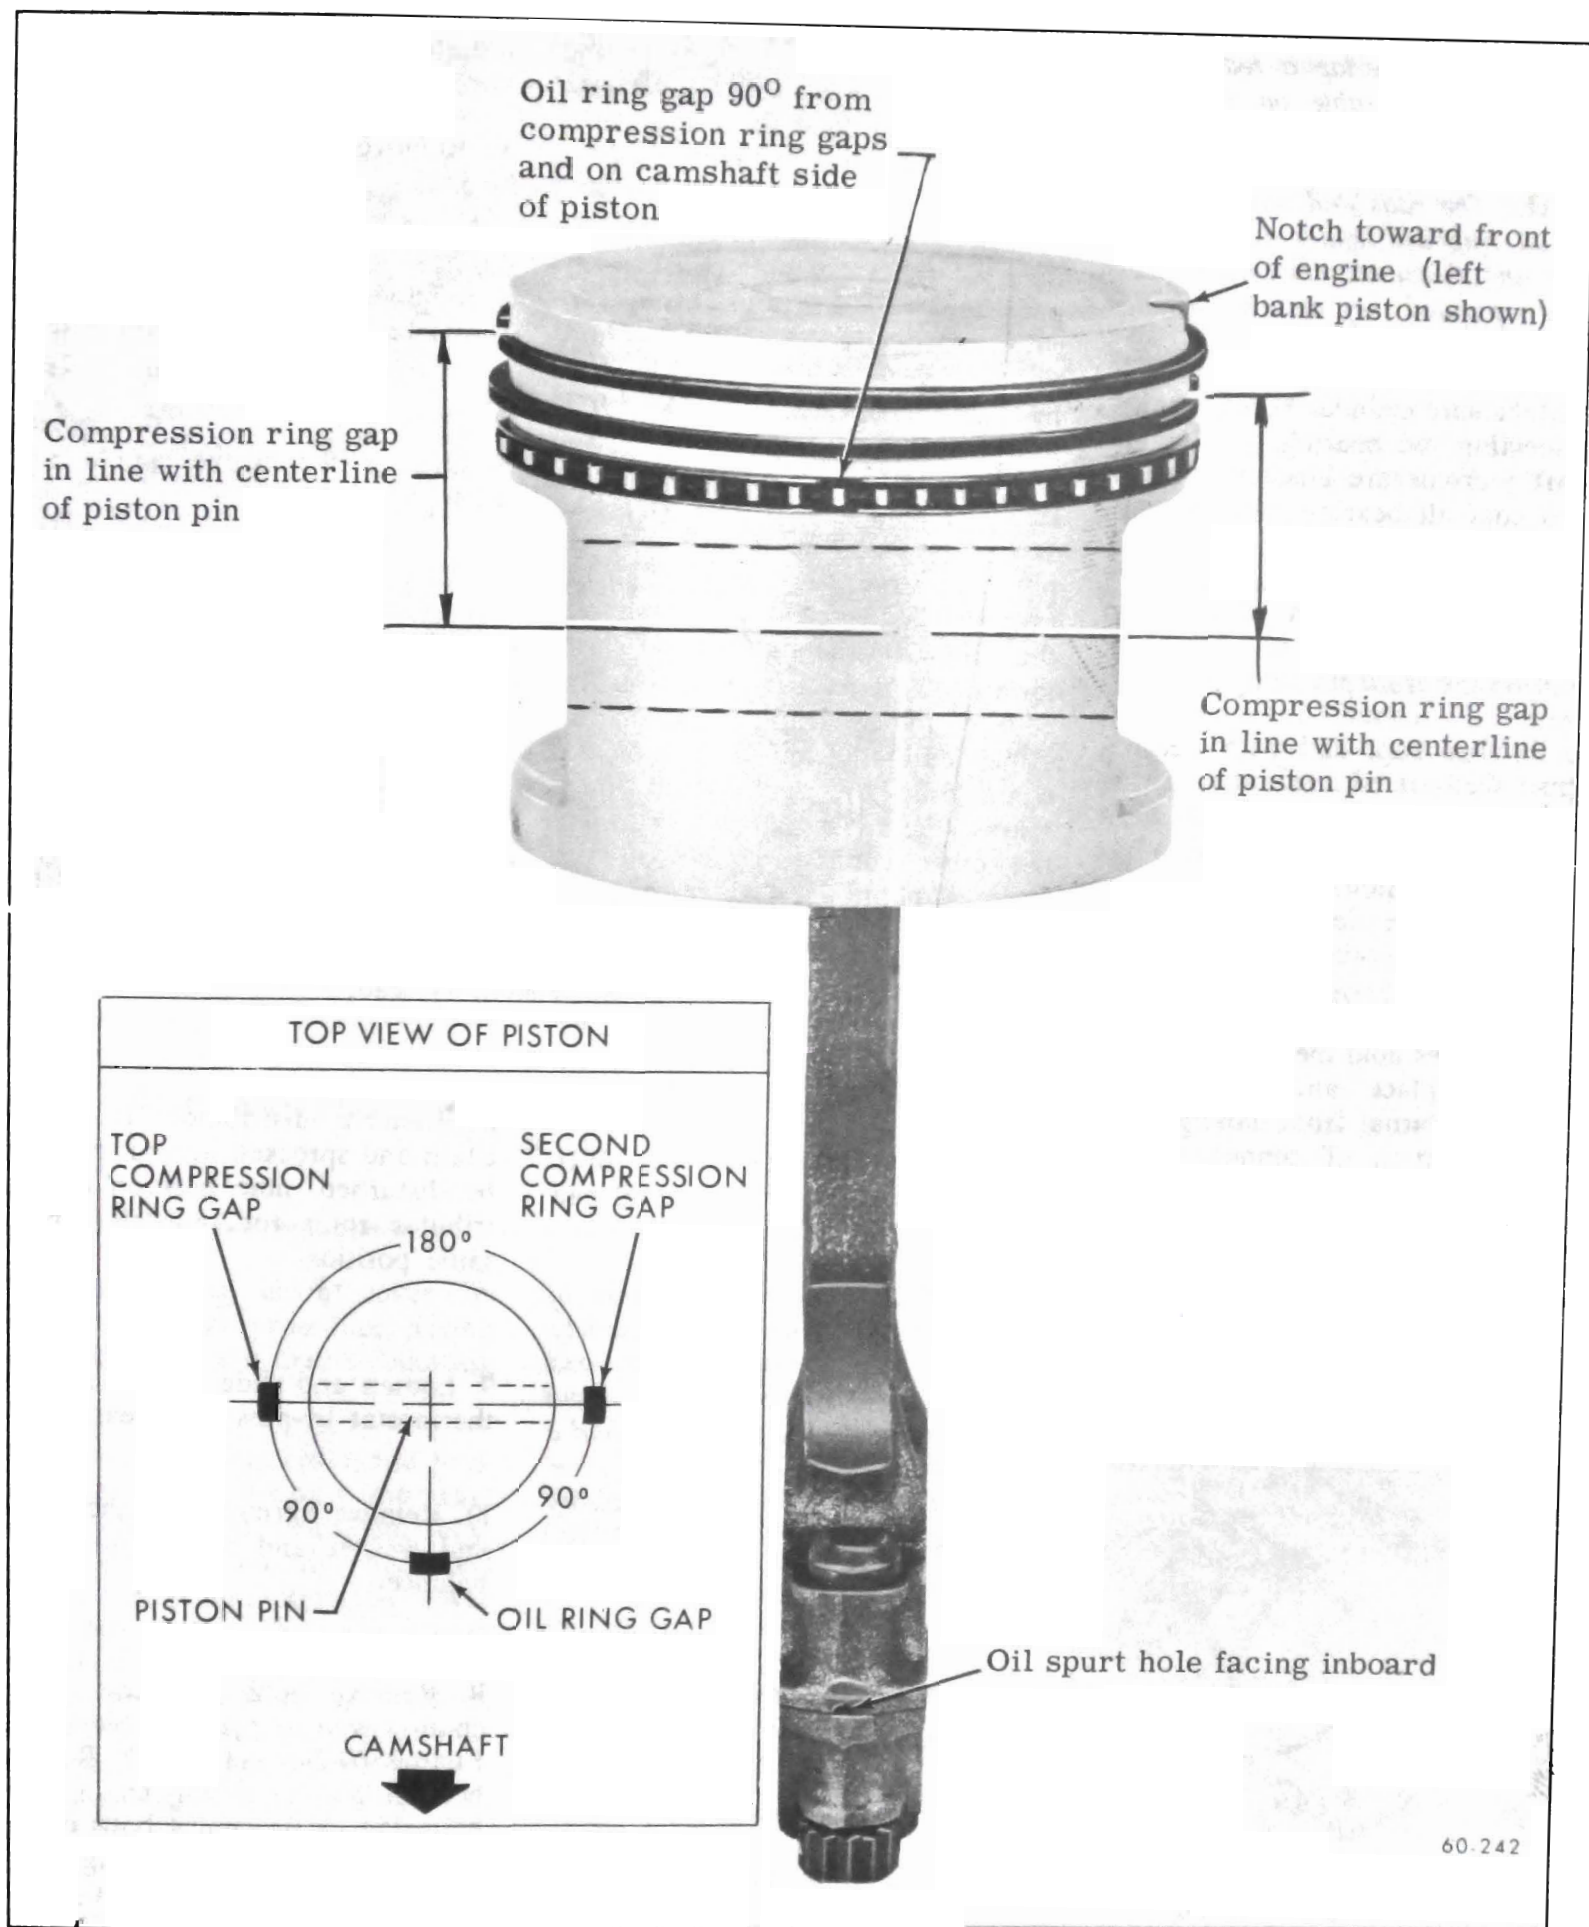

Figure 60-239 Piston Ring Gap Positioning
d. Ring gaps - All three ring gaps must be 90° apart. See Figure 60-239.